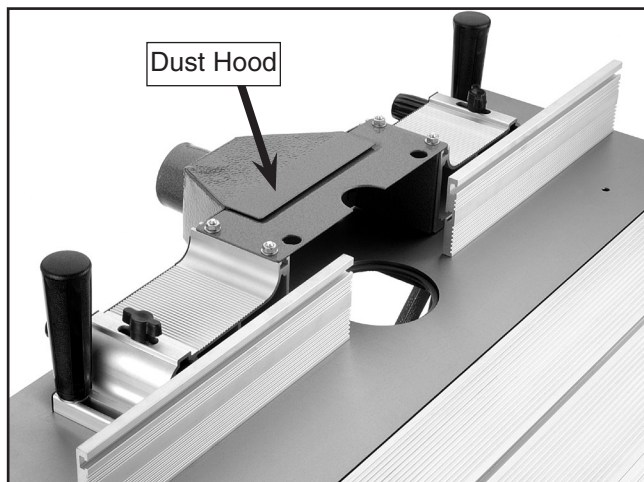

Figure 9. Installed fence and dust hood.
2. Secure the dust hood to the top of each fence assembly (**Figure 9**).